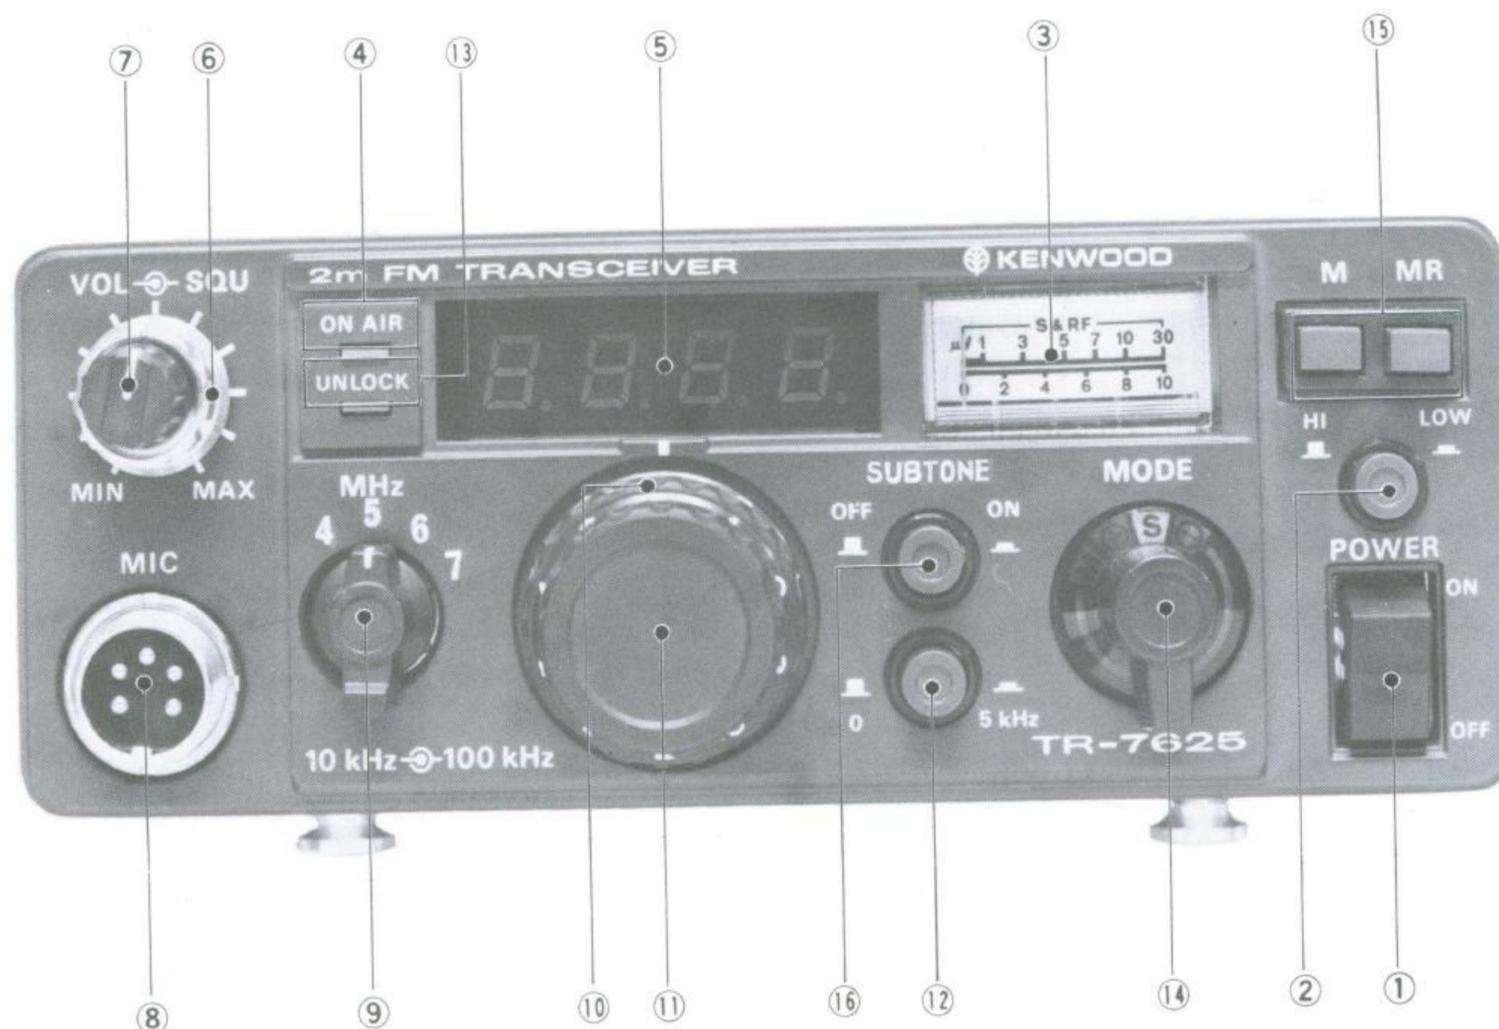

Fig. 2-1 Front Panel View
2.1 FRONT PANEL (Refer to Fig. 2-1)